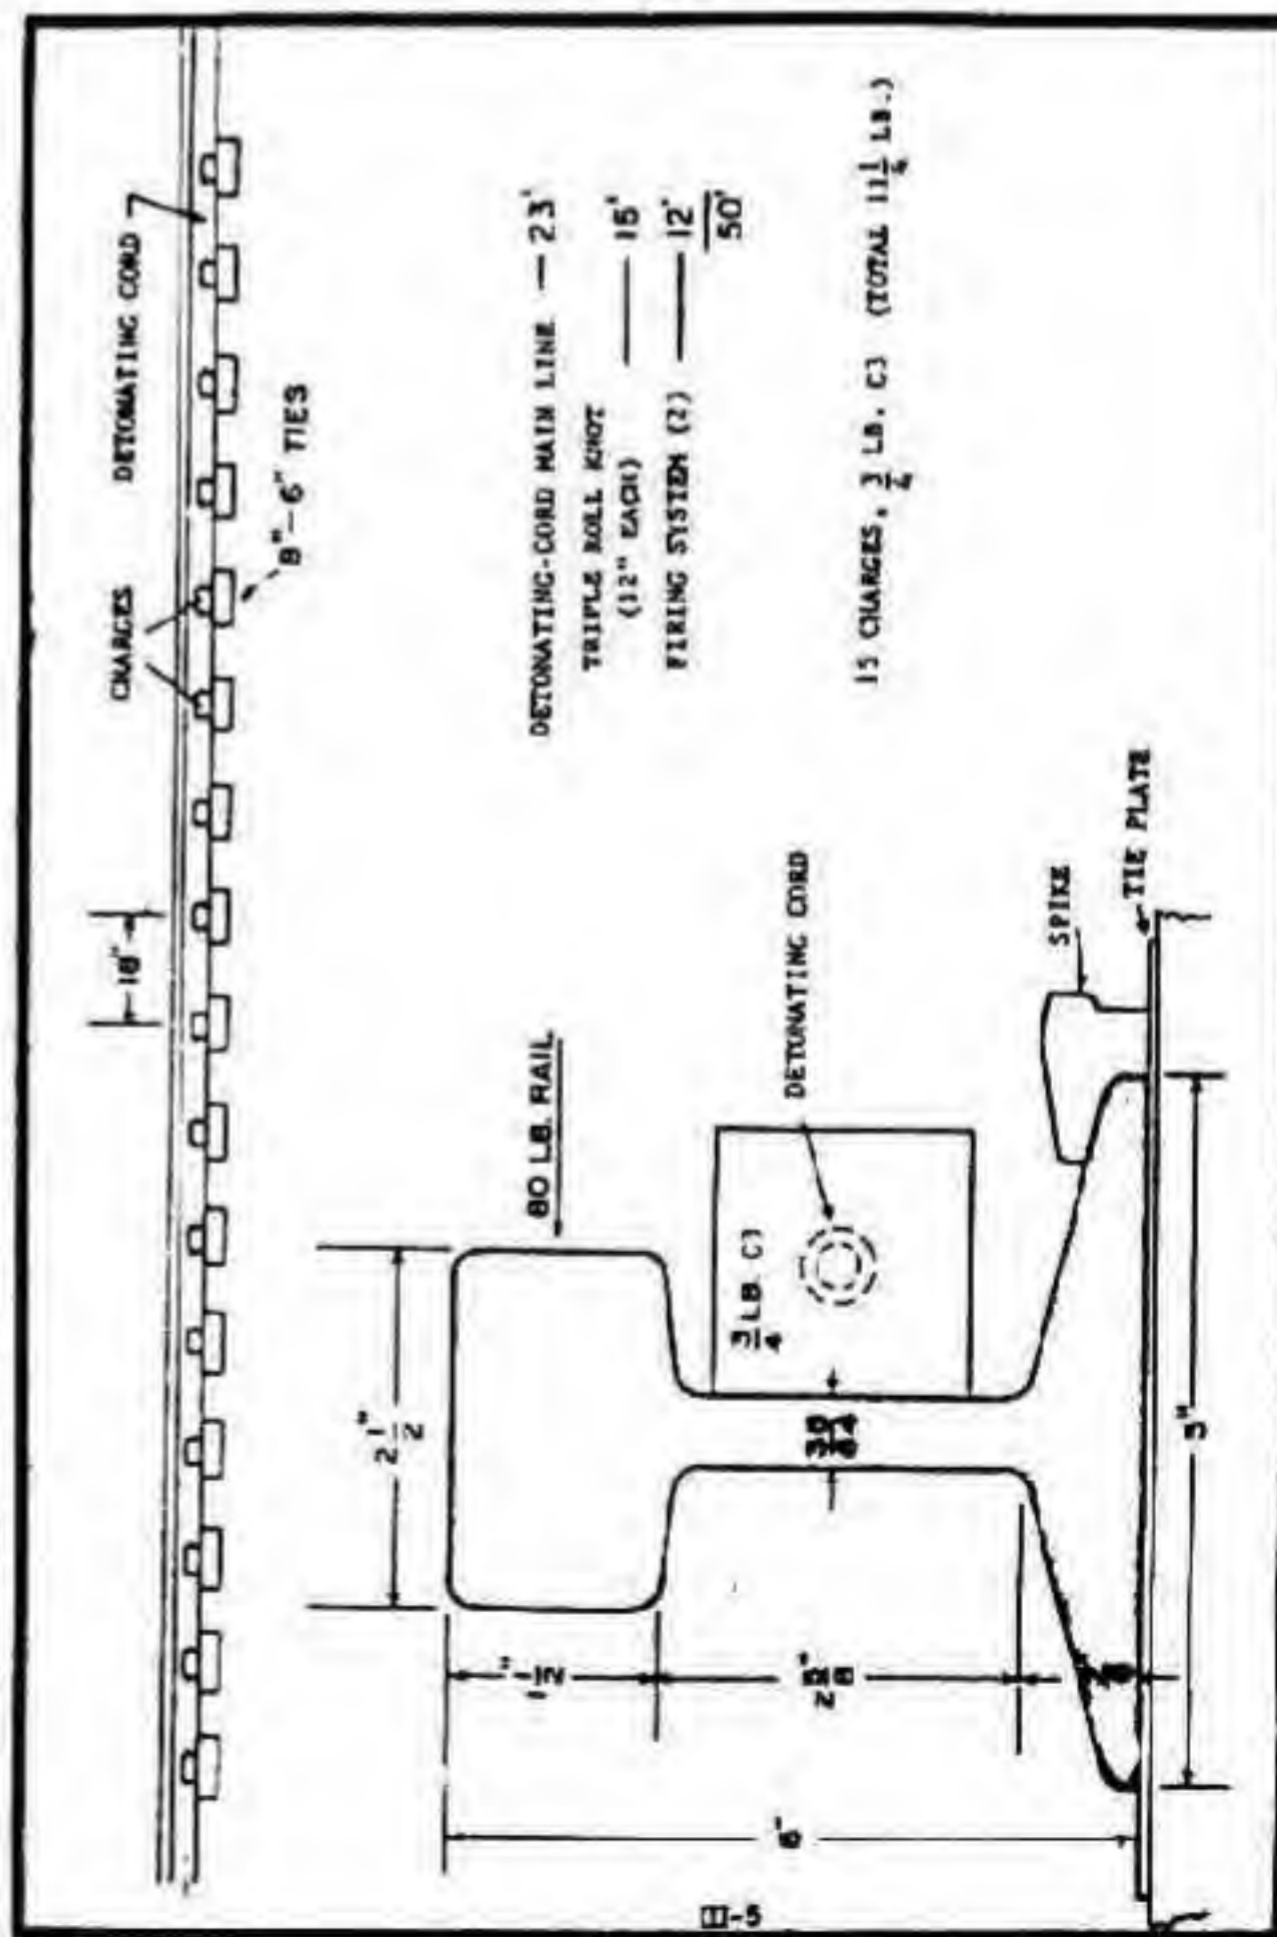

Figure 1. Healy derailment charge.
b. The Derailment Charge requires three quarter pounds of plastic explosive, either C3, C4 or their equivalent, to cut the standard rail (80 lbs. per yard). One-third of the standard issue plastic demolition block is a convenient unit of measure. A series of three, quarter-pound charges is arranged on the web of the rail as diagrammed in figure 1. The series of charges should not bridge a fish-plate. One charge is placed directly over each tie on the selected 20 feet of rail. This will result in removing all rail, at least partially breaking the ties directly under the rail, and creating some minor cratering of the roadbed ballast. Standard center tie spacing is 22 1/2 inches; however, variations run from 18 inches on up to 3 feet. Lacking specific information on the tie spacing, the distance between prepared charges is based on 18 inch measurement which results in placing 15 of the three quarter pound charges for each derailment series on a continuous detonating cord main line. The detonating cord main line to which the individual charges are attached is 23 feet in length to provide approximately a foot tail at either end for quick attachment of a firing system. A triple roll knot for each three quarter pound charge is fixed on the main line as diagrammed in figure 2. These knots are arranged roughly on 18 inch center to coincide with the anticipated tie spacing. They are arranged to insure a snug continuous contact with the main line but loose enough to slide; thus making it possible to make on target adjustments for variations in tie spacing. The individual three quarter pound charges are firmly molded around each triple roll knot. They must be sufficiently wrapped to withstand the necessary rough handling in bringing them on target and to also insure that the charge and knot will slide as an integral unit.